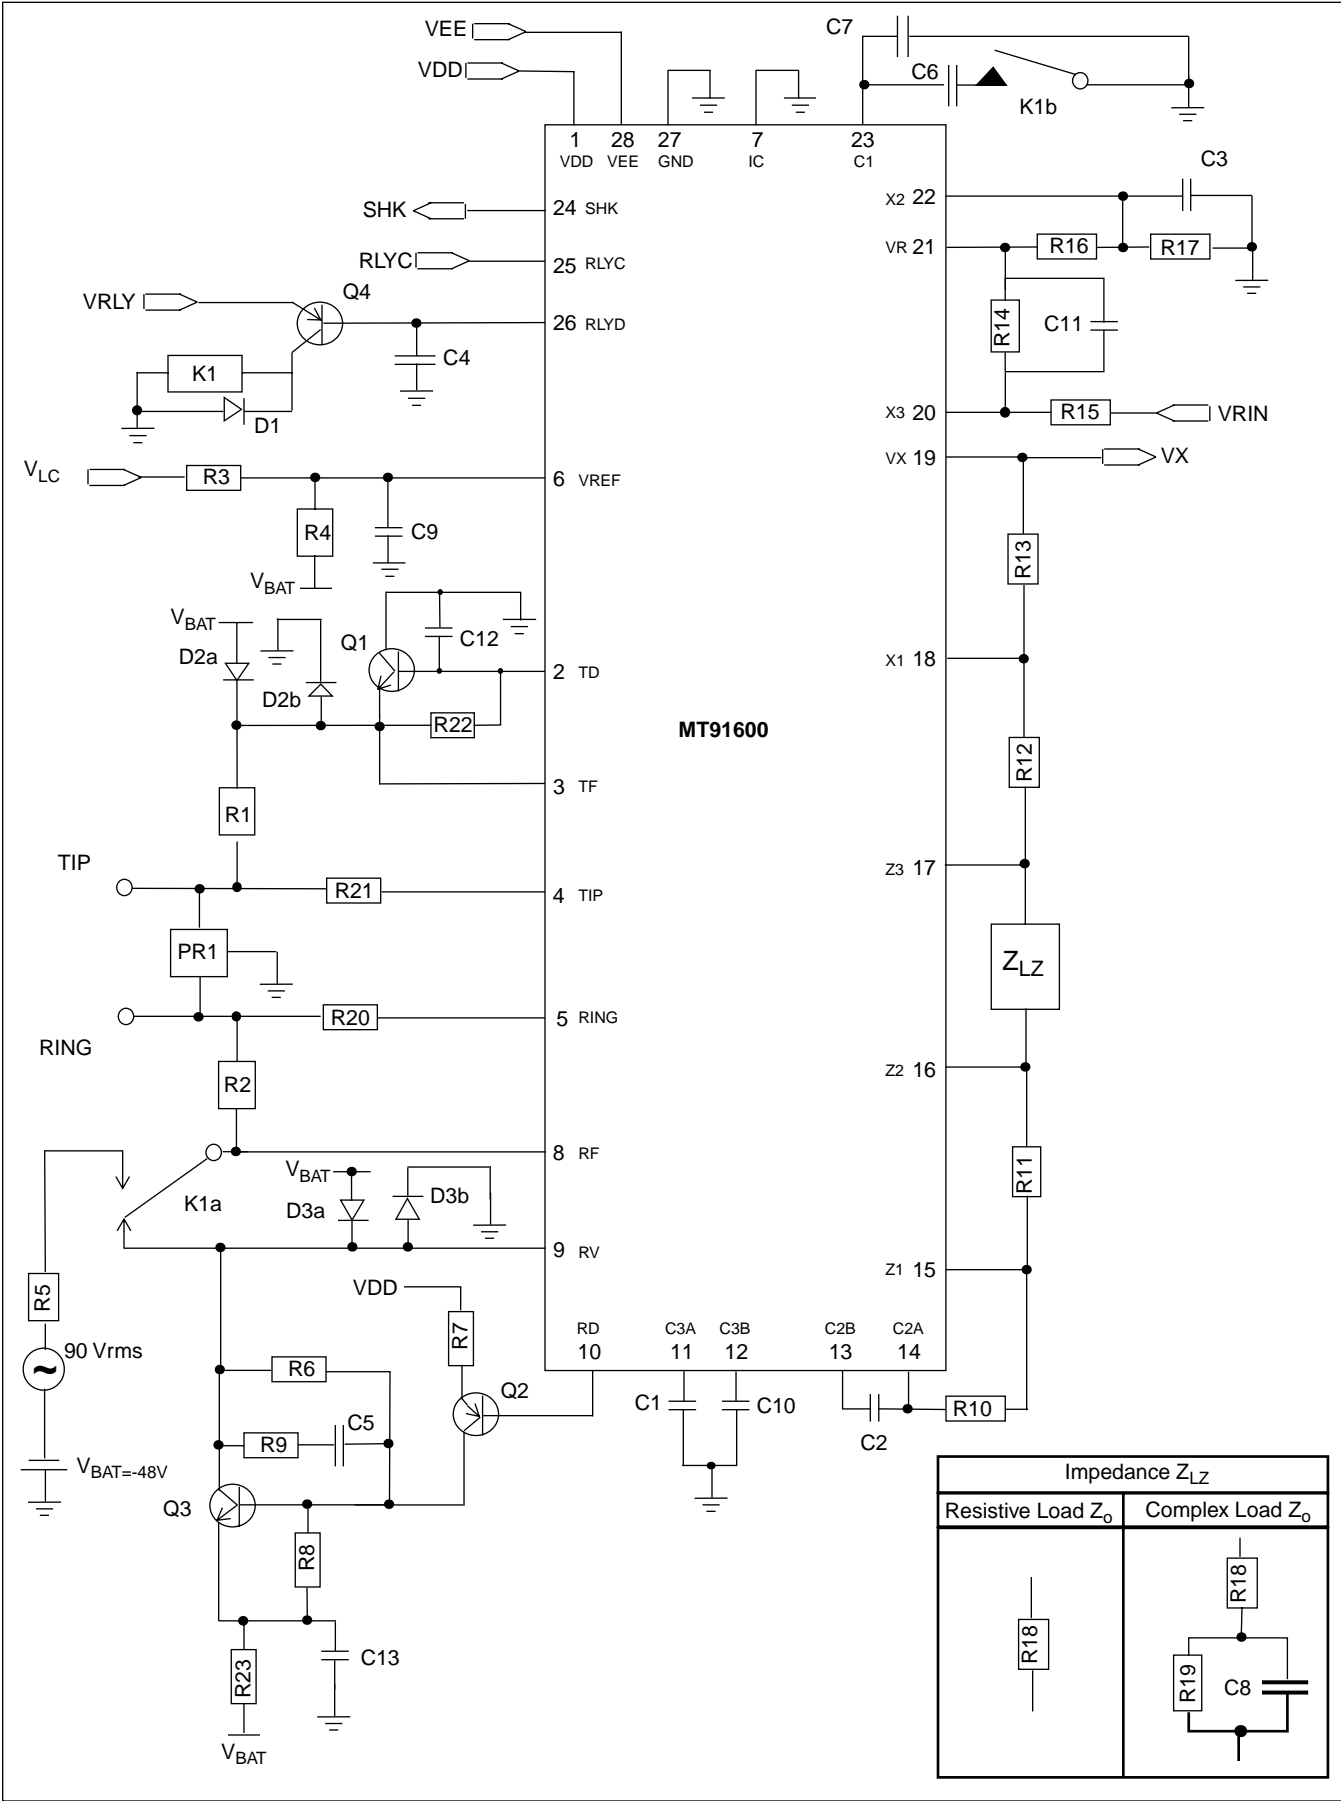

Figure 5 - Typical application
**Component List\* for a Typical Application with a Resistive 600Ω Line Impedance** - Refer to Figure 5 for component designation and recommended configuration